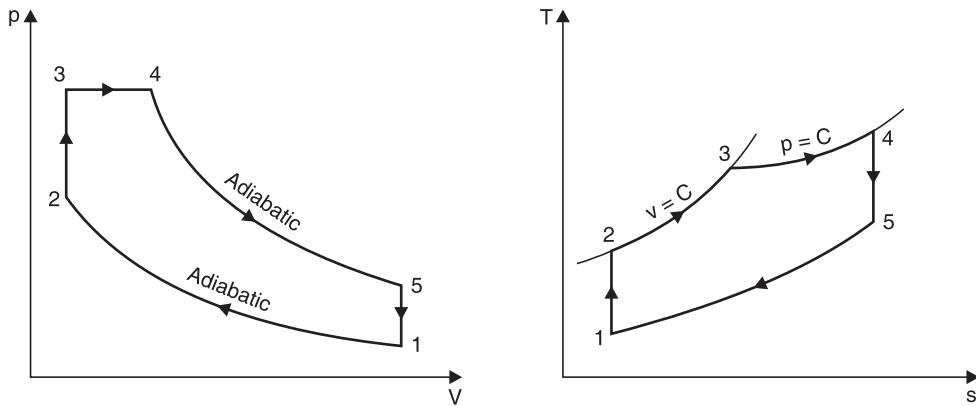

Fig. 4.19
The dual combustion cycle (Fig. 4.19) consists of the following operations :
**Solution.** Refer to Fig. 4.19.